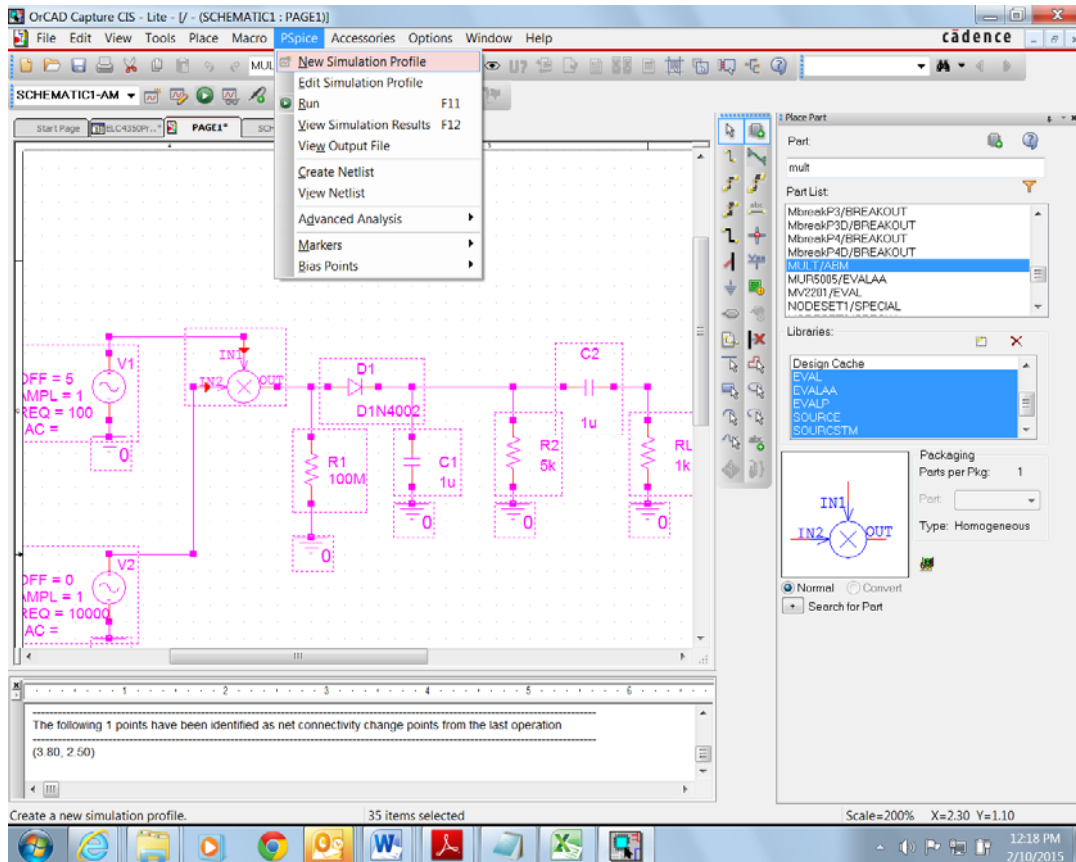
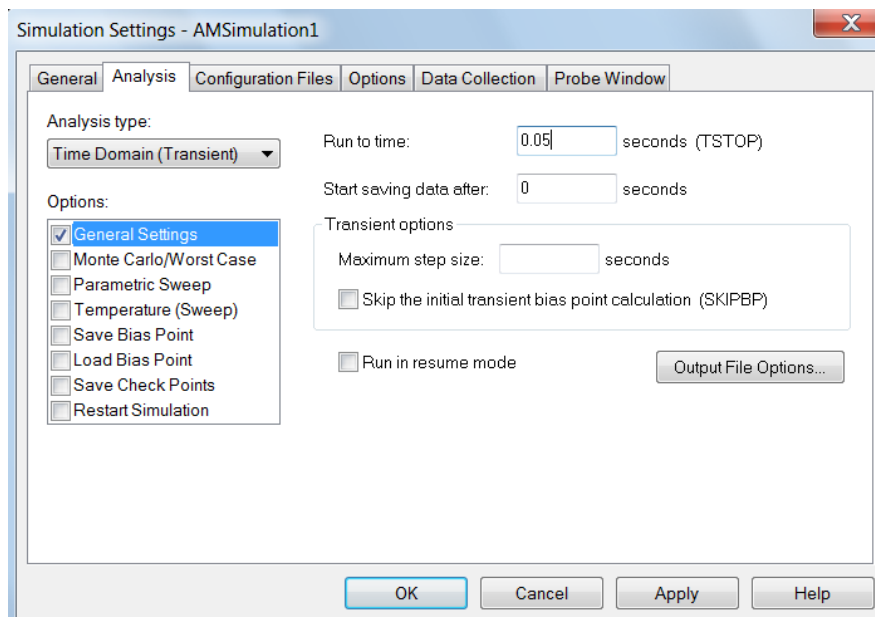
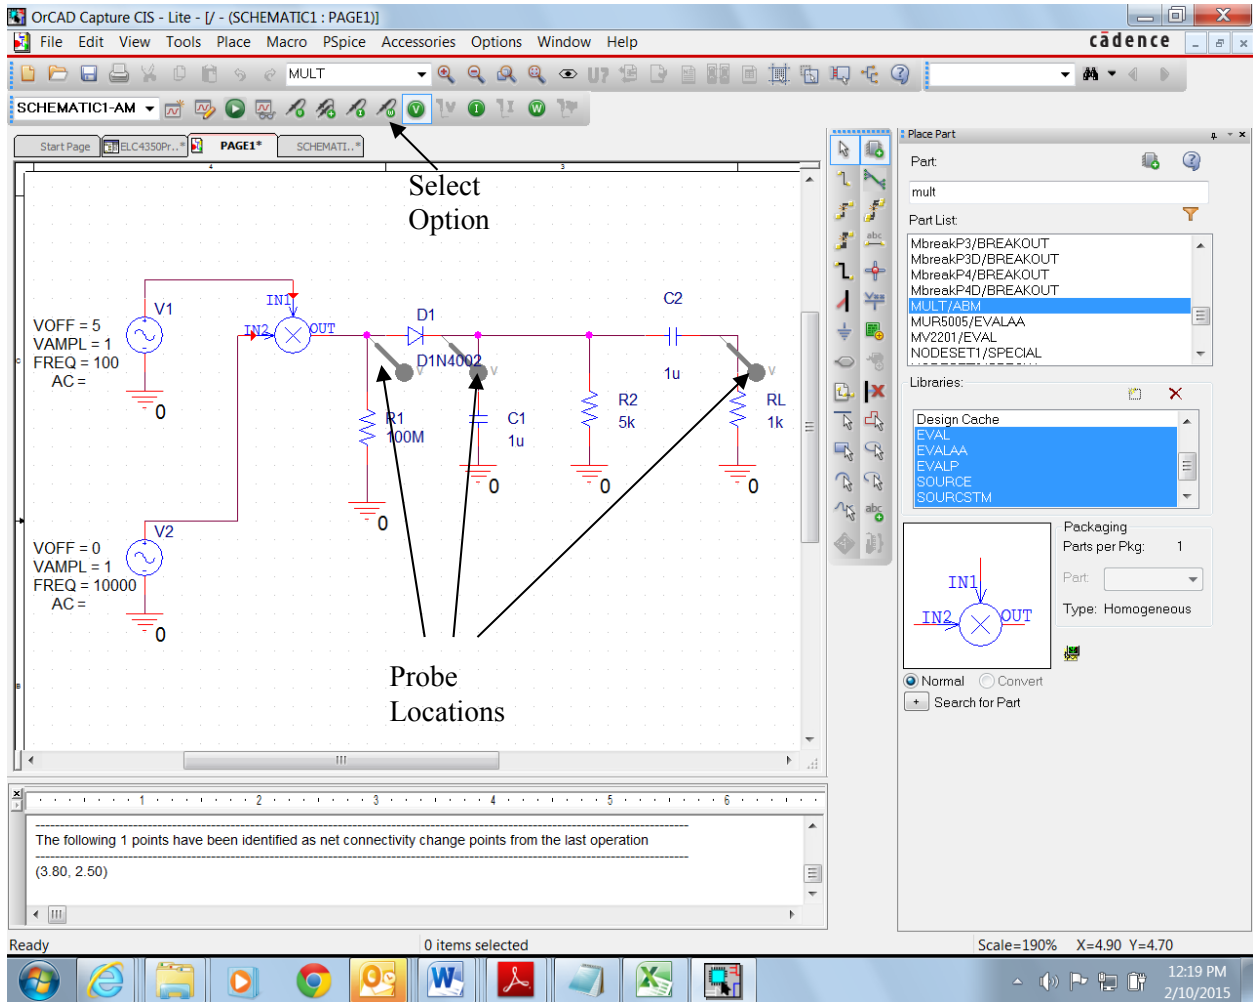
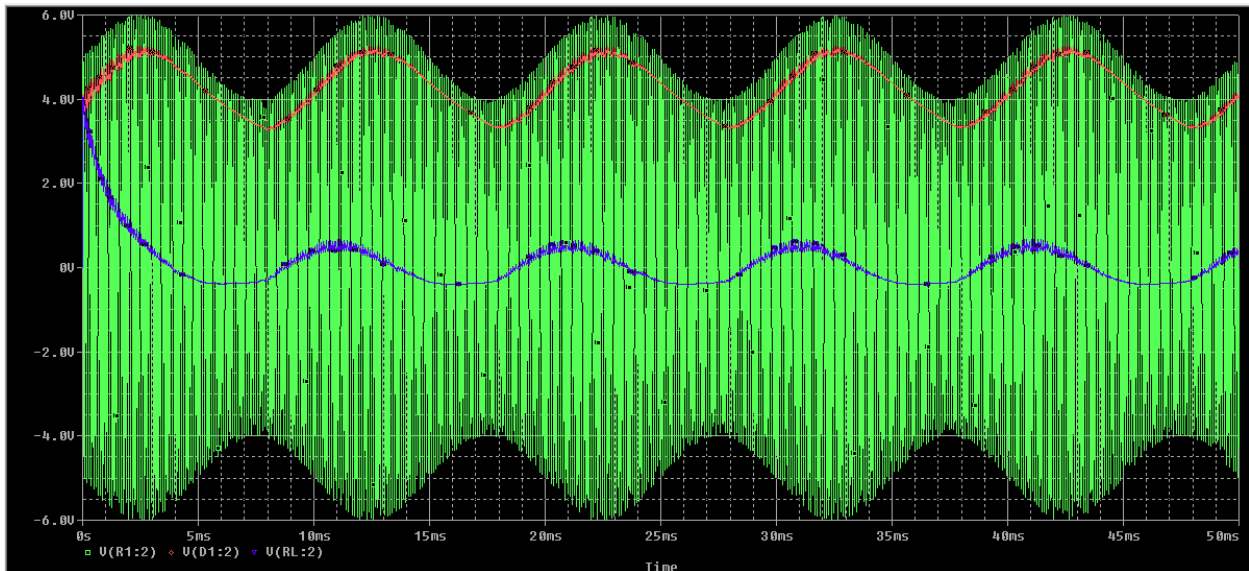

Figure 6. Selecting the Setup for a New Simulation Profile
Figure 7. Simulation Settings
Figure 8. Placement of Voltage Probes
Figure 9. Plot of Results
After the circuit is constructed and the values are adjusted, the simulation can be configured and run. Go to PSpice → New Simulation Profile, as shown in Figure 6. Name the simulation, and then click “OK”. Fill out the Simulation Settings sheet as shown in Figure 7 and click “OK.” When back in the schematic window, place voltage “V” probes at the three locations shown in Figure 8. After the probes are in place, press the forward arrow on the toolbar to begin the simulation (it looks like a “Play” button). The simulation should pop up with a graph of the transient analysis. The plot appears as in Figure 9 (with the colors inverted). It is apparent that one plot shows the modulated signal, a second plot shows the voltage waveform after the diode, and the third waveform is the envelope after passing it through the DC blocking capacitor.
4. Now set the values of R2 and C1 to their optimal values as found in the above step. Plot the results for different values of the modulation index μ . What is the modulation index for the initial setup? Now change the modulation index. Adjust the DC offset of the 100 Hz sine source to the desired value of A to accomplish this. Plot the results for $\mu = 0$ (Figure 6) and $\mu = 1$ (Figure 7). Does $\mu = 1$ allow the signal to be correctly detected? Find the maximum value for μ that allows correct envelope detection and provide a plot (Figure 8). If this value is different from $\mu = 1$, comment as to why (consider the fact that the turn-on voltage of this diode will not be 0 V).